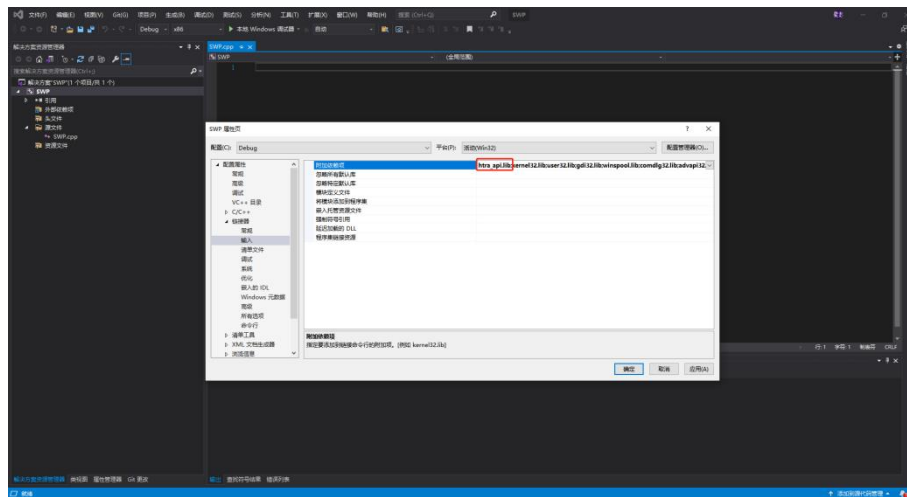

Figure 20
Step 1: Open Qt Creator, create the project, select the appropriate naming and creation path, as shown in Figure 20; select the appropriate base class to create, then select the corresponding Kits suite, and then create the finished project as shown in the following figure: